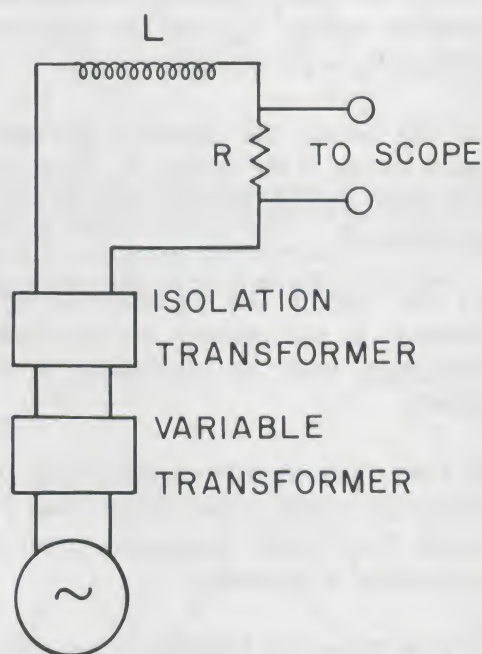

Figure 28. Circuit for Experiment B-2.
1. Connect a circuit like that shown in Figure 28. Again, the purpose of the resistor is to allow current measurement. The circuit will be dominated by the inductance.